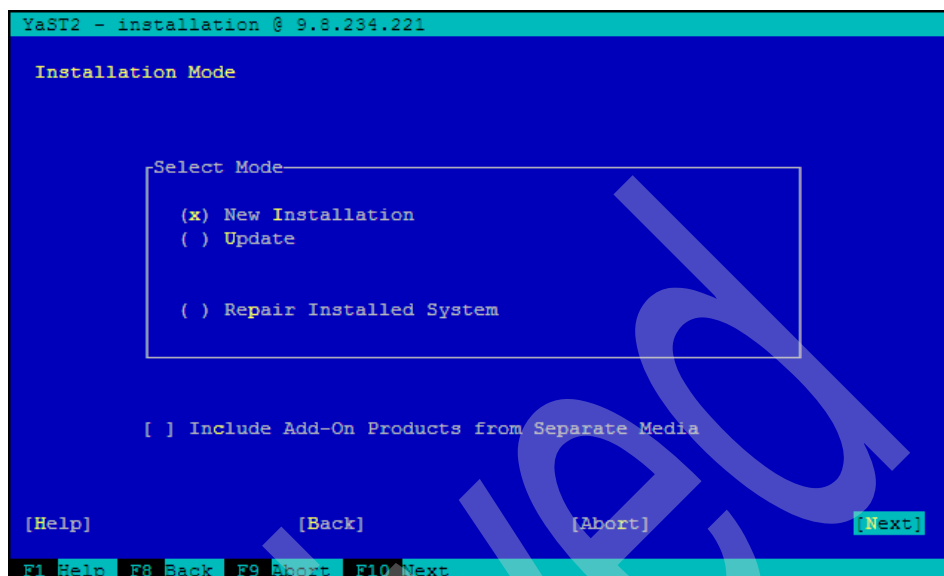

Figure 9-18 Installation Mode
12. Select **New Installation** for the Installation Mode, as shown in Figure 9-18 on page 374.